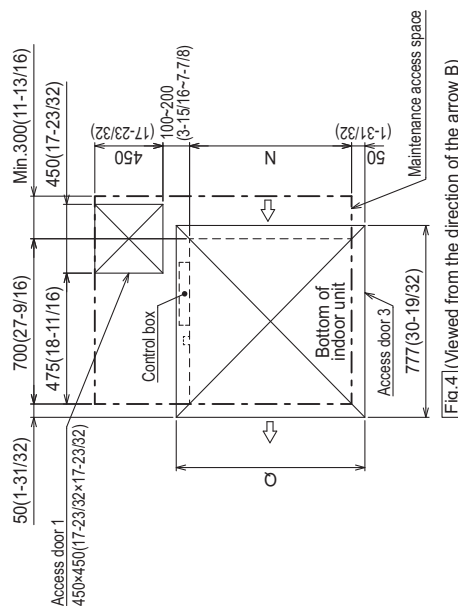

Fig. 2 (Viewed from the direction of the arrow A)
- Create access door 1 and 2 (450×450mm(17-23/32×17-23/32) each) as shown in Fig. 2.
- (2) When a space of less than 300mm(11-13/16) is available below the unit between the unit and the ceiling.